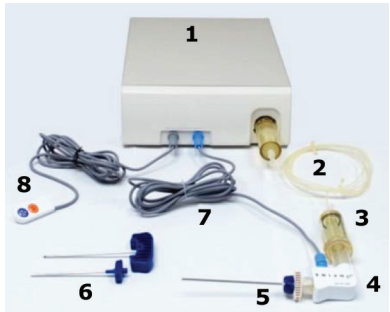

FIGURE 1. STABILIT VERTEBRAL AUGMENTATION SYSTEM
The StabiliT Vertebral Augmentation System consists of eight (8) components (Figure 1).